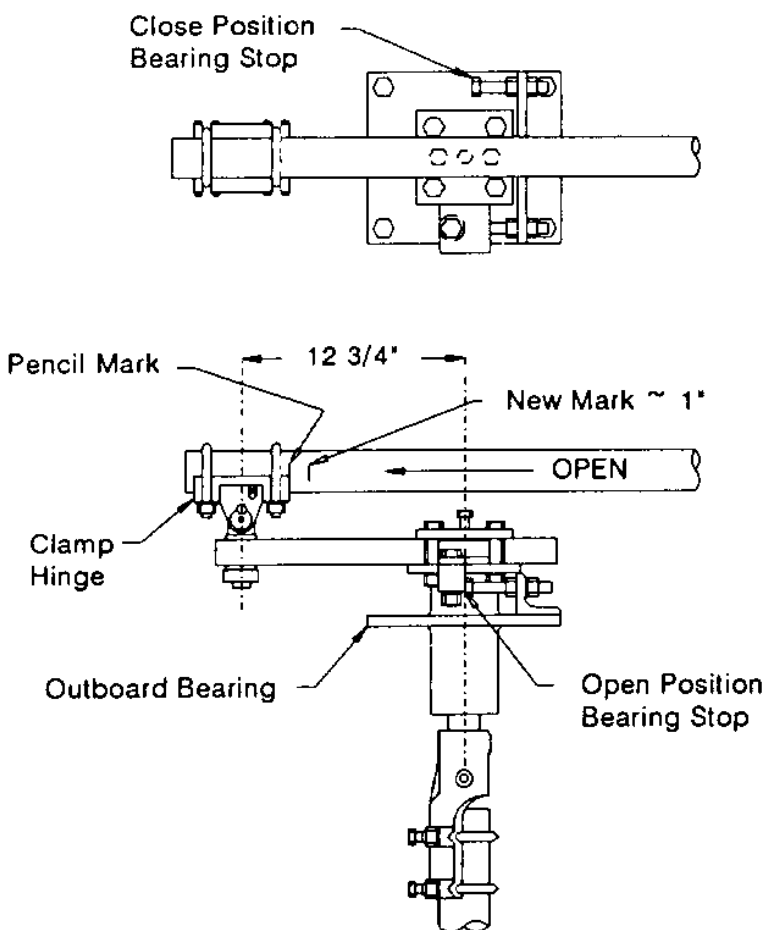

Figure 45 -- Group Control Pipe Adjustment
- 1. With outboard bearing lever in full open position and pole units manually rotated to their limit in the green bands, mark group control pipe at bearing clamp. Measure 1 inch from this mark along group control pipe and mark pipe. This is shown in Figure 45.